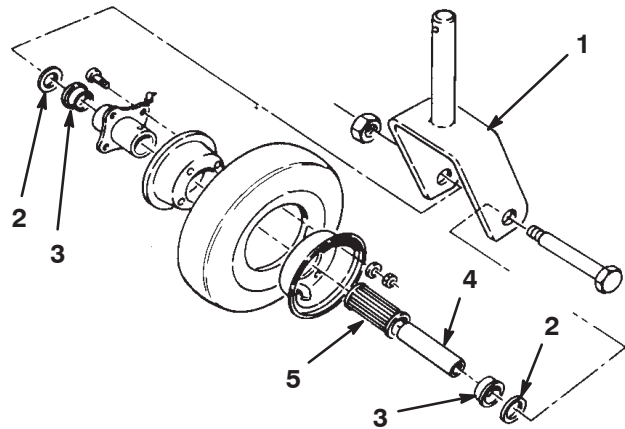

Figure 24
1. Remove the locknut from the cap screw holding the castor wheel assembly between the castor fork (Fig. 24). Grasp the castor wheel and slide the cap screw out of the fork.
2. Tip the wheel to the side and allow the spanner bushing (Fig. 24) to fall out.
3. Remove one bearing retainer from the wheel hub and allow the bearing to fall out. Remove the bearing retainer from the opposite side of the wheel hub (Fig. 24).